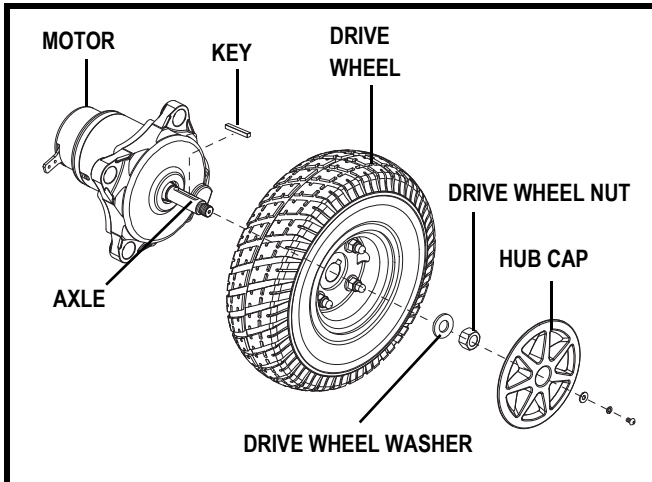

Figure 19. Jazzy Select Series Drive Wheel Removal
5. Remove the hub cap. See figure 19.
6. Remove the drive wheel nut and washer from the axle. See figure 19.
8. Remove the nuts that fasten the two rim halves together. See figure 19.